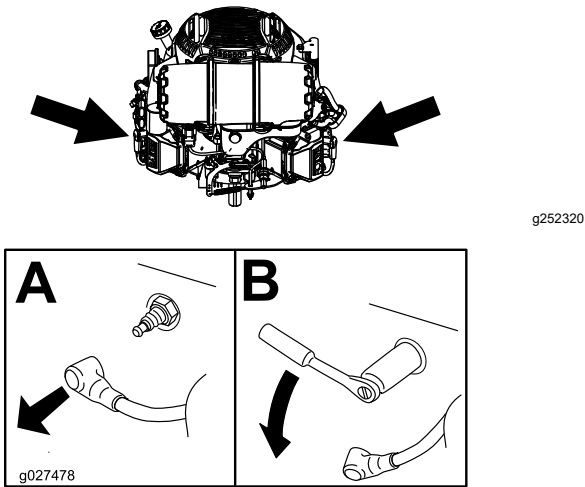

Figure 39
3. Locate and remove the spark plug(s) as shown in Figure 39.